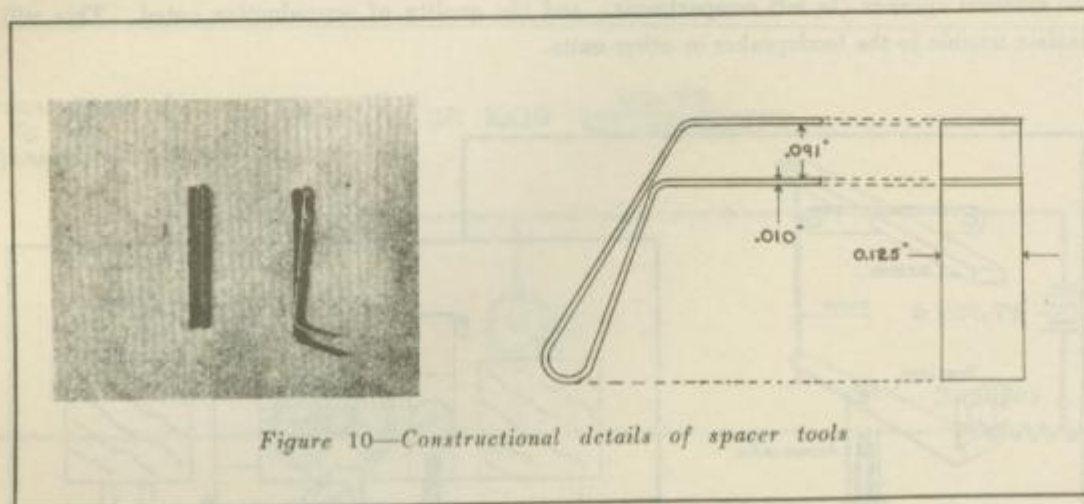
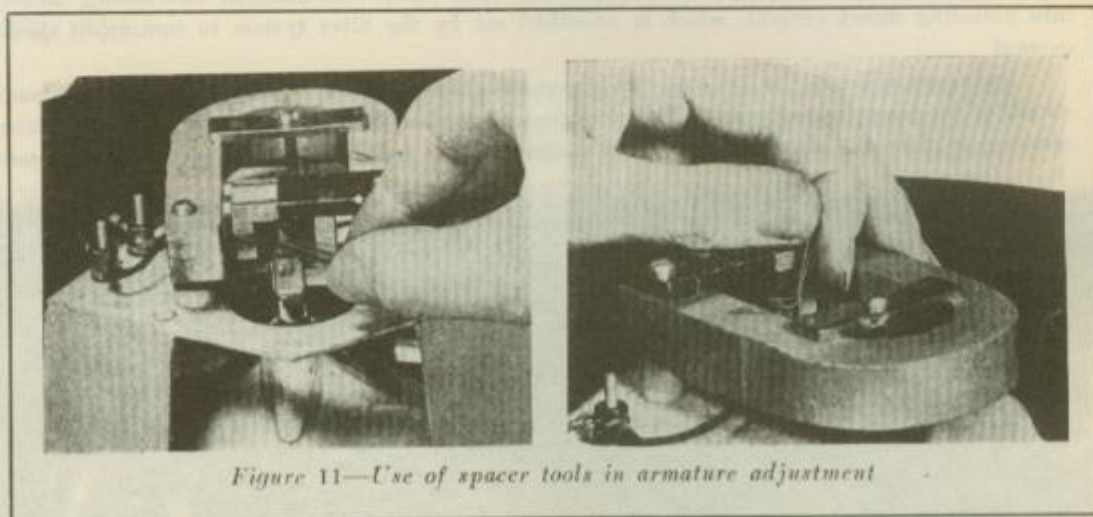

Figure 10—Constructional details of spacer tools
Figure 11—Use of spacer tools in armature adjustment
armature correctly it will be first necessary to make a set of spacer tools (Figure 10). These are made of  $\frac{1}{8}$ " stock phosphor bronze .010" thick and bent to give two surfaces .091" apart. Two of these tools are necessary. After the two screws are loosened at each end of the armature these tools are inserted at each end between the armature and pole pieces (Figure 11). The screws are then tightened with the spacer tools in place. This completes the adjustment.
5. Insert the spacer tools in position as shown in Figure 11 and tighten the armature screws. It may be necessary to do this several times before the armature is correctly adjusted.